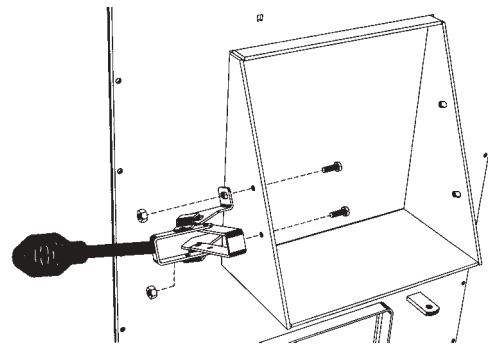

Fig. 9
3. Attach feed door locking handle as in Figure 9 with screws and nuts provided. Note: Slotted holes are for adjustment of handle. Adjust handle until some pressure is required to lock feed door during firing sequence.